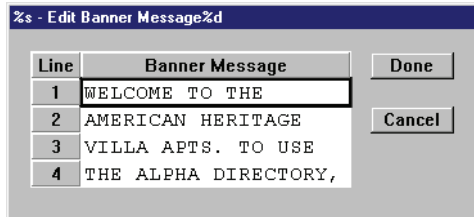

Figure 10-7: Edit Banner Message1 Window Filled
6. The Edit Banner Message window should look similar to Figure 10-7.